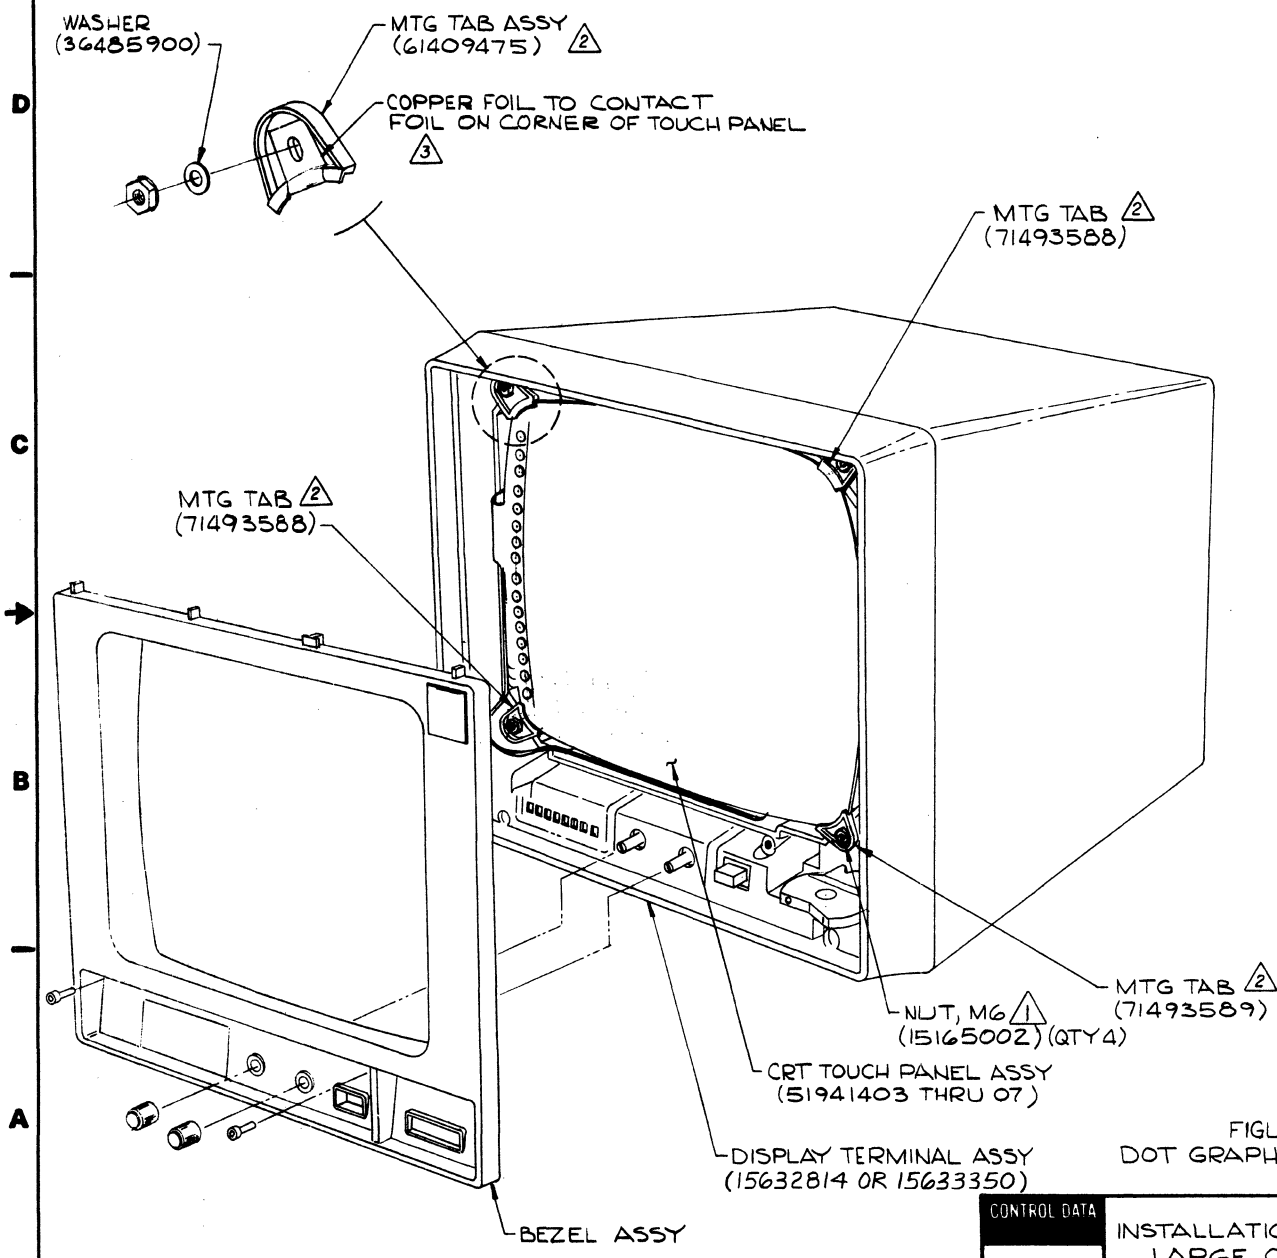

FIGURE 1
3. REMOVE BEZEL ASSEMBLY AS SHOWN IN FIGURE 1.
5. MOUNT TOUCH PANEL ASSEMBLY WITH HARDWARE AS SHOWN IN FIGURE 1. PASS CABLE BETWEEN ADAPTER AND CRT AS PANEL IS INSTALLED. SEE NOTE 1 (SHEET 1) FOR TORQUE SPECIFICATION
2. REMOVE BEZEL ASSEMBLY AS SHOWN IN FIGURE 1
4. MOUNT TOUCH PANEL ASSEMBLY WITH HARDWARE AS SHOWN IN FIGURE 1. PASS CABLE BETWEEN ADAPTER AND CRT AS PANEL IS INSTALLED. SEE NOTE 1 (SHEET 1) FOR TORQUE SPECIFICATION.